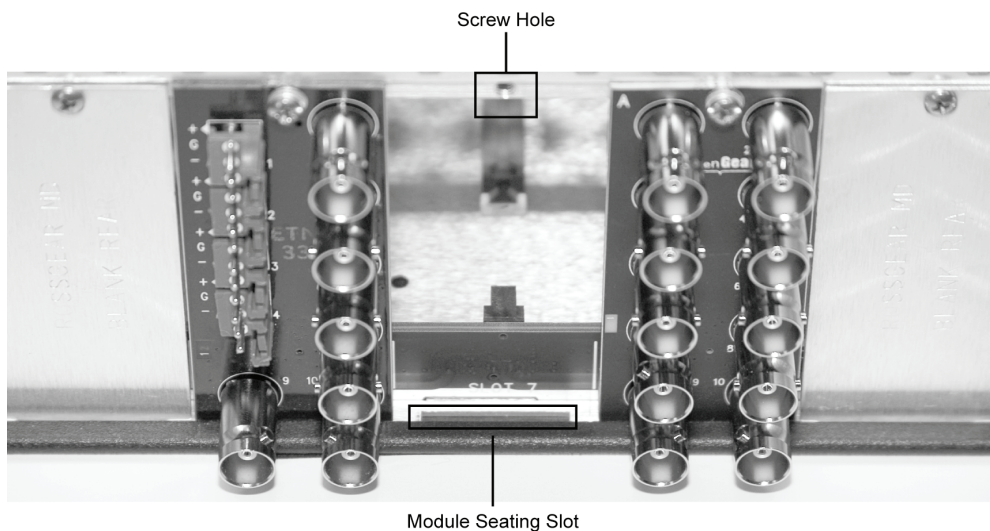

Figure 2.1 *Rear Module Installation in a DFR-8310 Series Frame (Cards not shown)*
4. As shown in **Figure 2.1**, seat the bottom of the rear module in the seating slot at the base of the frame's back plane.